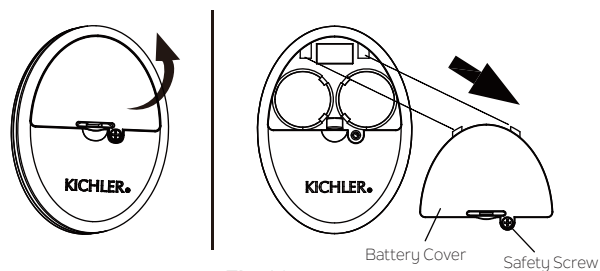

Fig. 30
**Step 1.** Remove the safety screw and the battery cover from the back of the transmitter. Retain safety screw. (Fig. 30)